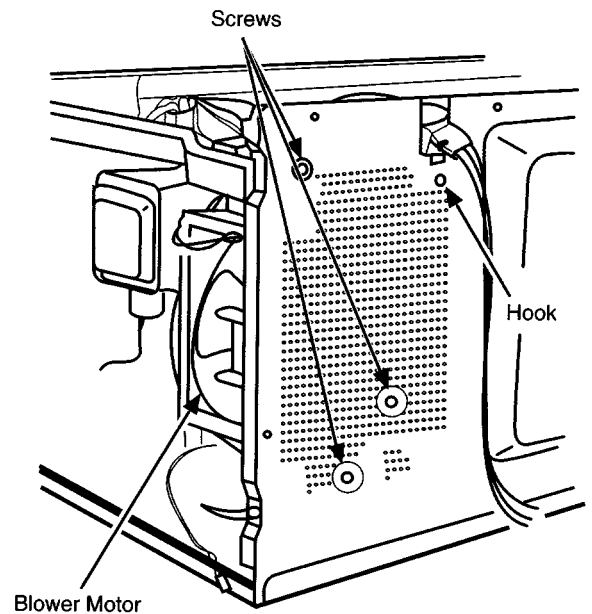

Figure 12
- (1) Remove screw securing the stay.
- (2) Disconnect all lead wires from the blower motor and H.V. capacitor.
- (3) Remove 2 screws securing the blower base and disengage 3 hooks from the rear plate of cavity (Figure 12)
- (4) Remove 1 screw securing the blower motor with the blower base.